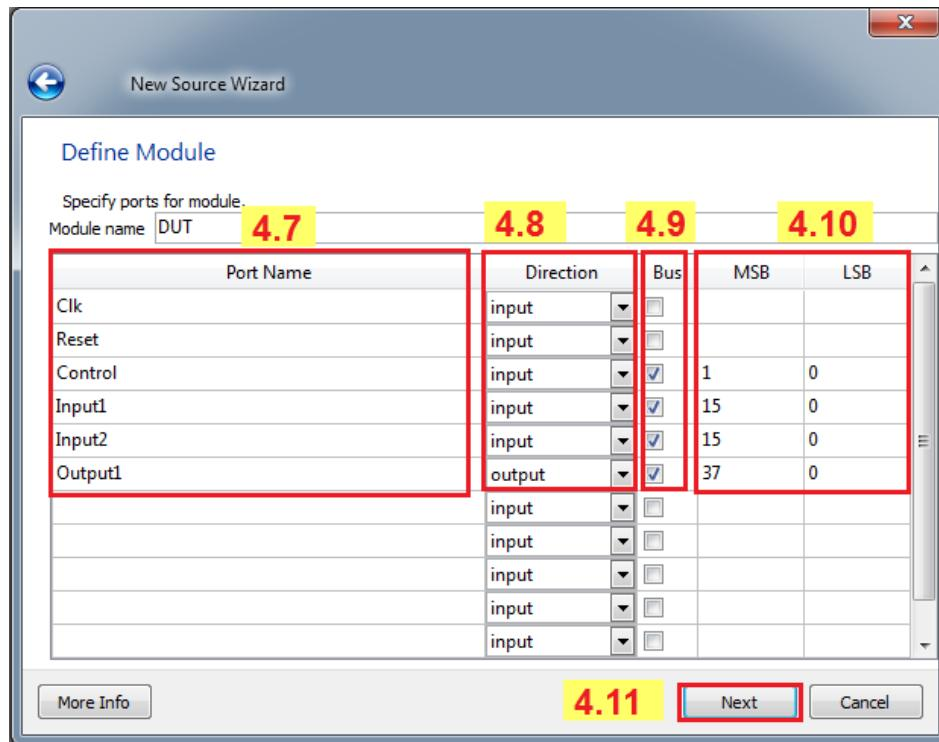

Figure 13.
- 4.10. Enter the values shown in Figure 13 for bus width of last four ports.